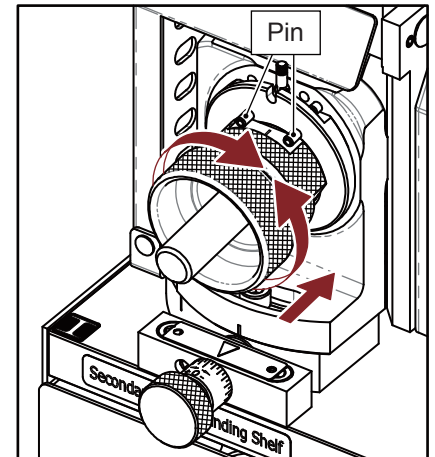

Fig. 10-1
1. 3 Flute Secondary Relief Grinding (I) (Fig. 10-1)
- ① Insert the Chuck set into Shelf (I), align Slot No.1 of the clamping nut with the two pins on the shelf, gently push the Chuck set and turn it clockwise and counterclockwise until the grinding noise stops.
- ② Take the Chuck set out, turn it to grind the Slot No.2 and Slot No.3 in the same way.